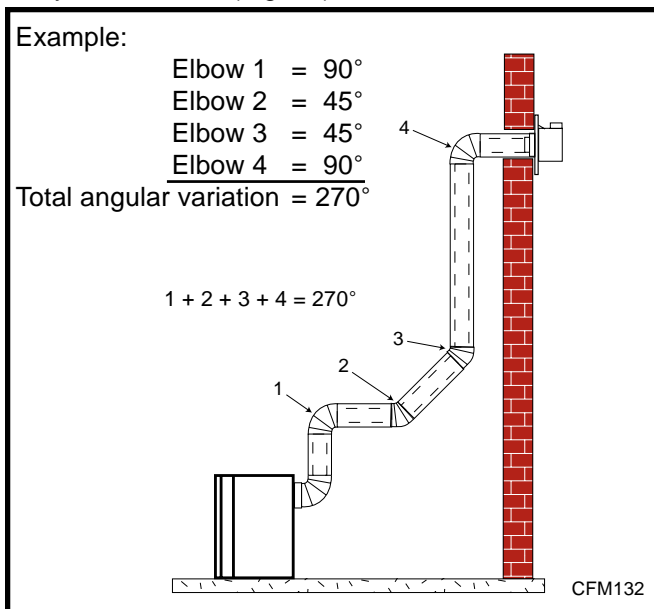

Fig. 20 Maximum elbow usage.
Example: According to the chart the maximum horizontal vent length in a system with a 7.5' vertical rise is 20' (6 m) and if a 90° elbow is required in the horizontal vent it must be reduced to 17' (5.2 m). In Figure 20 Dimension A plus B must not be greater than 17' (5.2 m).
- The maximum number of 45° elbows permitted per side wall installation is two (2). These elbows can be installed in either the vertical or horizontal run.
- The maximum number of elbow degrees in a system is 270°. (Fig. 20)